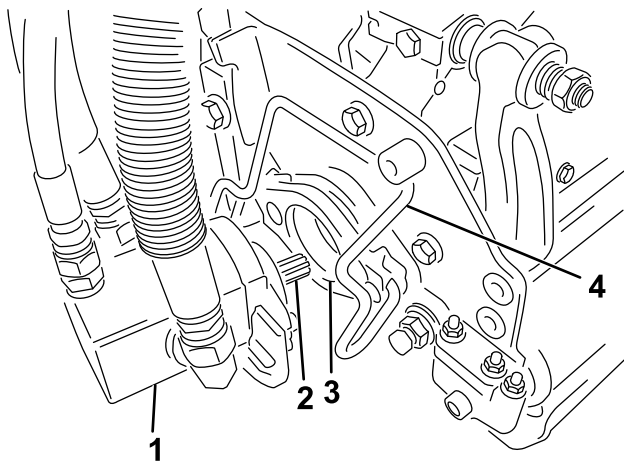

Figure 49
5. Coat the spline shaft of the cutting unit motor with clean grease (Figure 49).
6. Insert the motor into the left side of the cutting unit (as viewed from the operator's position) and pull the motor retaining bar on the cutting unit toward the motor until you hear a click from both sides of the motor (Figure 49).